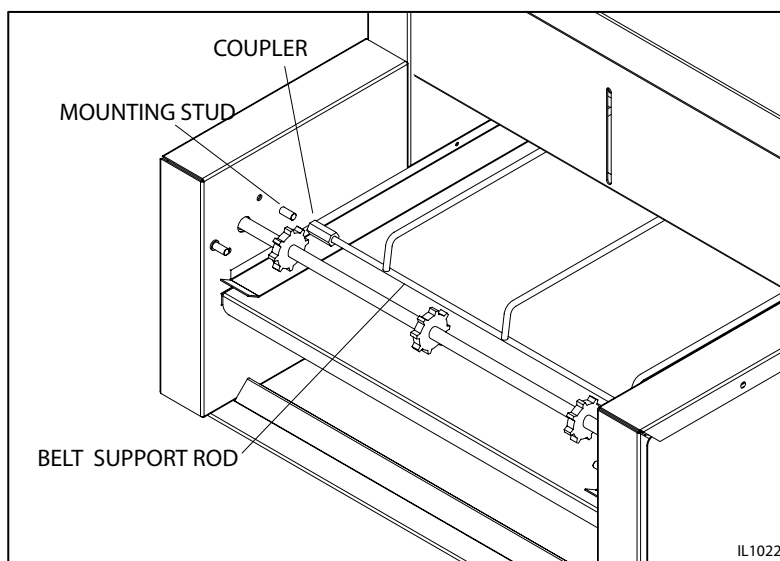

Fig 2. Removal of the Belt Support Rod
7. Remove the conveyor support system as shown in Fig 2. by removing the Couplers from the mounting Studs. Clean by warm water and abrasive pad.